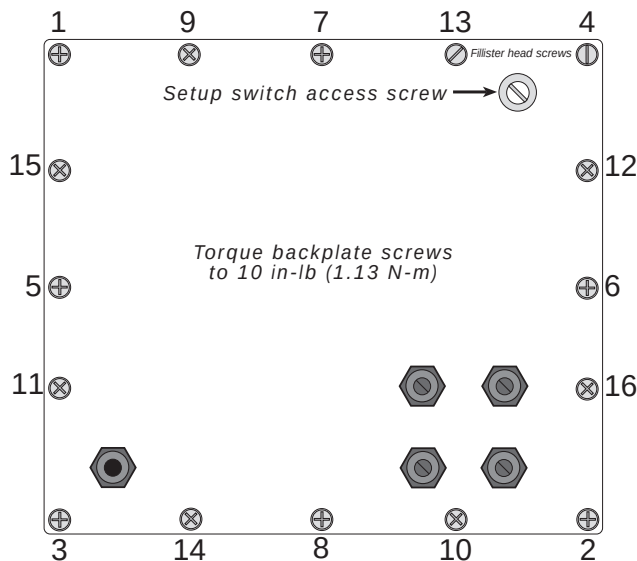

Figure 2-2. IQ plus 710 Enclosure Backplate
- Two 8-32NC x 7/16 fillister head screws (PN 30623). These screws occupy the holes above and on either side of the setup screw on the indicator backplate (see Figure 2-2 on page 7).
Once cabling is complete, position the backplate over the enclosure and reinstall the backplate screws. Use the torque pattern shown in Figure 2-2 to prevent distorting the backplate gasket. Torque screws to 10 in-lb (1.13 N-m).